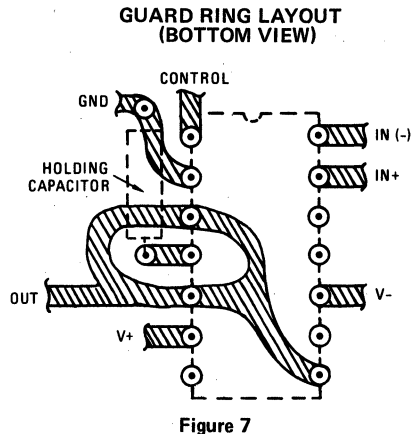

Figure 7
2. The method used to reduce leakage paths on the P.C. board and the device package is shown in Figure 7.